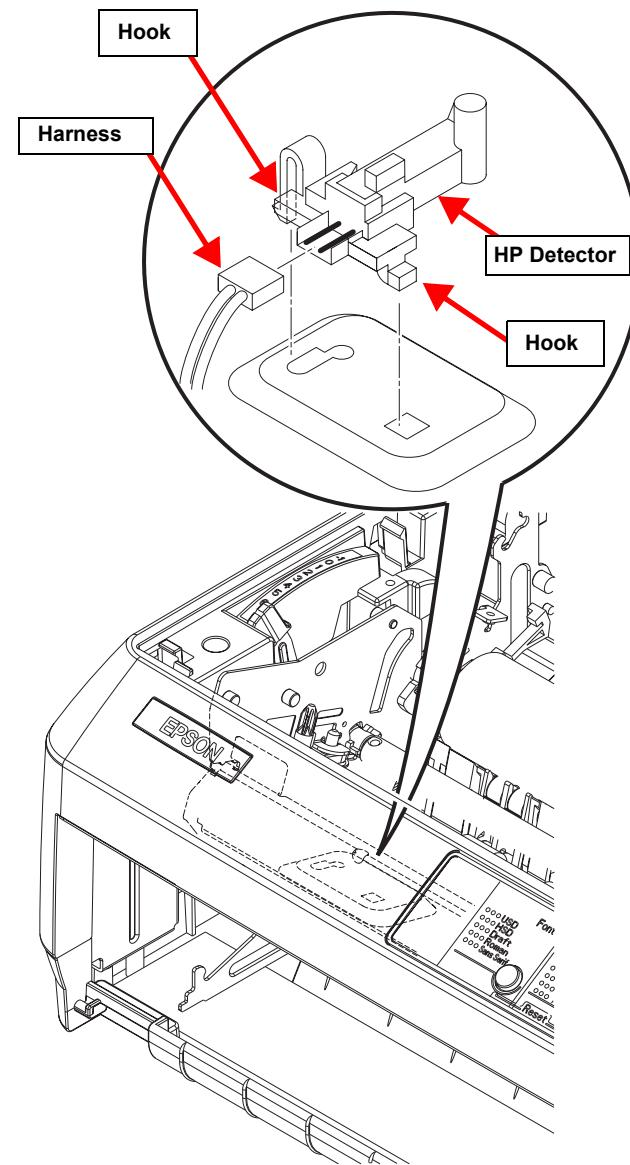

Figure 4-13. HP Detector Removal
2. Release the hook attaching the HP detector to the Printer Mechanism, and remove it. (See Figure 4-13)